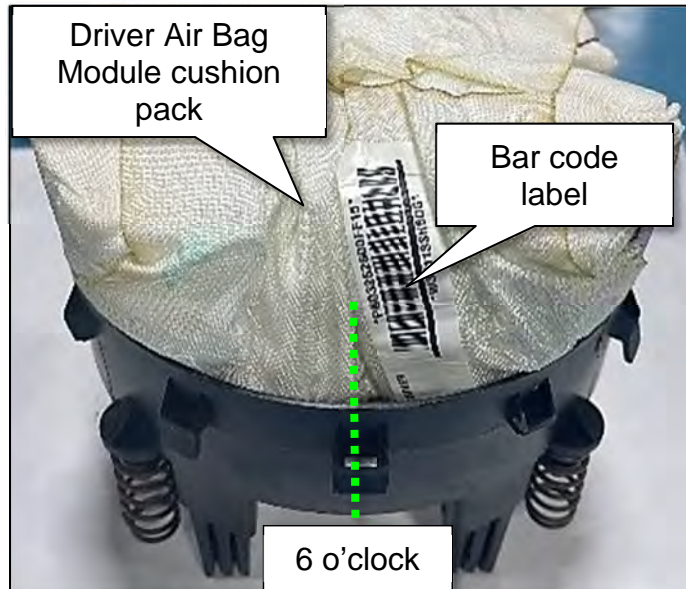

Figure 16
22. Place the Driver Air Bag Module assembly on a clean, flat, cloth covered surface, with the cushion pack facing up and the bar code label located at the 6 o'clock position, as shown in Figure 16.